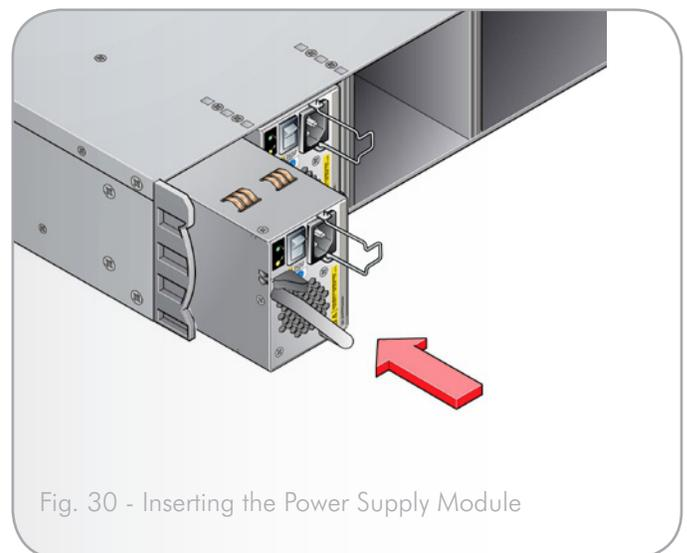

Fig. 30 - Inserting the Power Supply Module
2. Slide the module into the enclosure (*Fig. 30*).